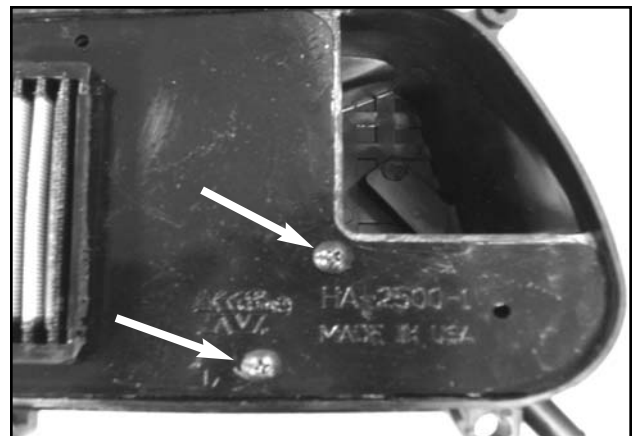

Fig. 2
6. Reinstall the two air filter screws on the K&N Filtercharger®. (Fig. 2)